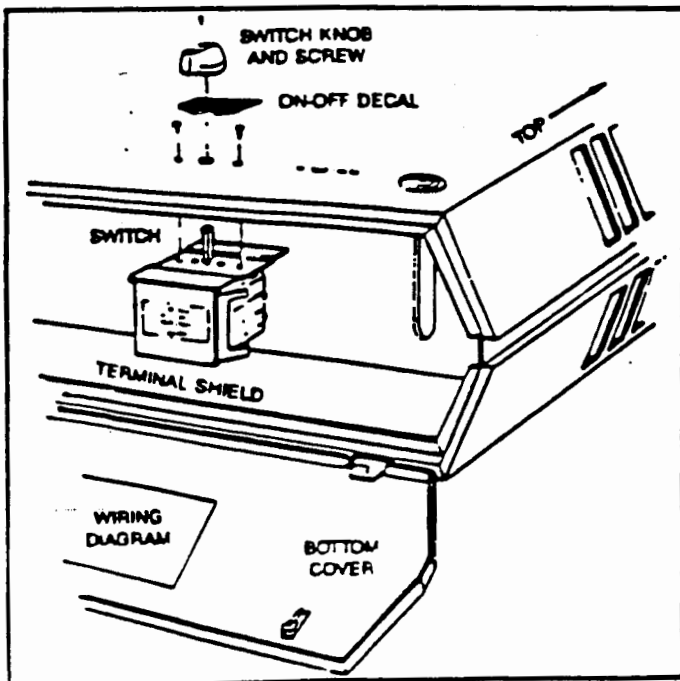

FIGURE 1 - Switch Location on 7-20 KW Unit
DISCONNECT SWITCHES WITH TERMINAL SHIELD. REFER TO FIGURES 1 AND 2 .
- a. 7-20 KW Units — 5/8" wide knockout slot is located centered on the heater back approximately 3 1/2" from the bottom of the unit with a small knockout on each side. See Figure 1.